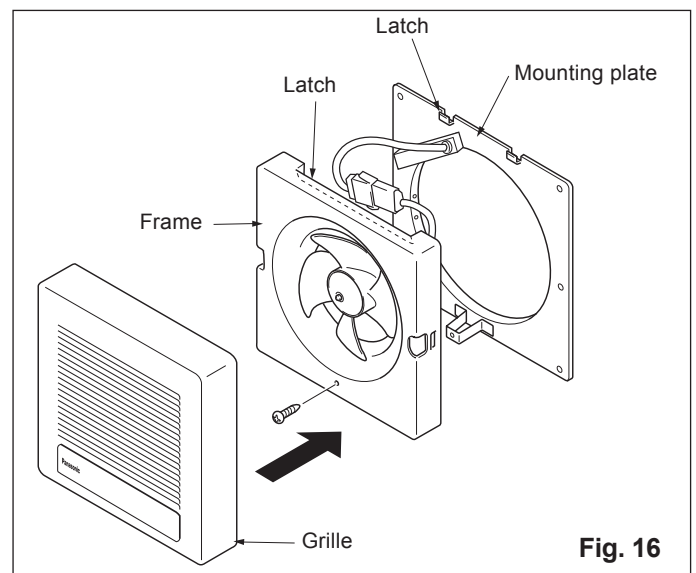

Fig. 16
13. Attach the electrical connectors to each other, hook the frame latches onto the mounting plate latch, and secure the fan unit to the mounting plate with the supplied screw (screw III). (Fig 16)